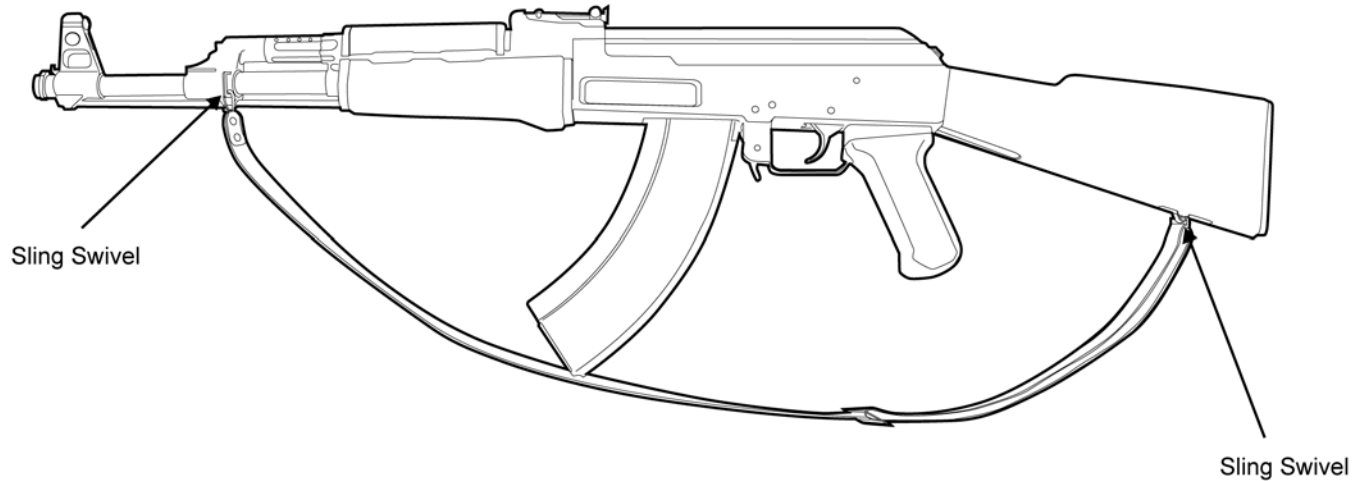

Figure 2. The Sling Swivels.
2. **Sling Swivels**. The sling swivels allow the operator to attach a sling to the weapon. Refer to Figure 2.